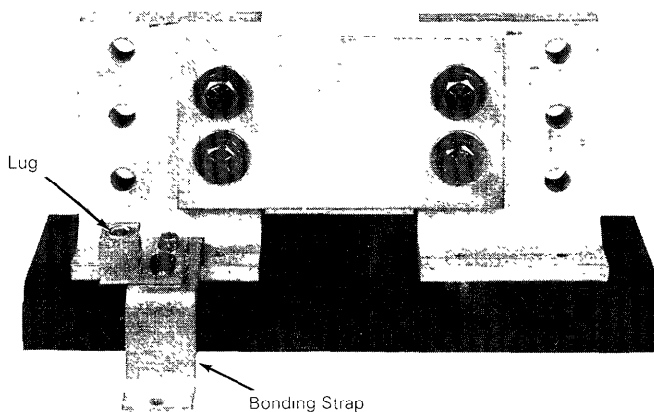

Figure 1. Bonding strap and lug attached to the neutral block.
1. Attach the lug to the bonding strap, if required, with the $\frac{5}{16}$ -20 x 1" screw, lock washer, flat washer, and nut provided. Tighten to 90 lb-in. Attach the bonding strap to the base with one of the $\frac{1}{4}$ -20 x $\frac{1}{2}$ " screws provided, as shown in Figure 1, but do not tighten the screw to allow for alignment with the back panel.